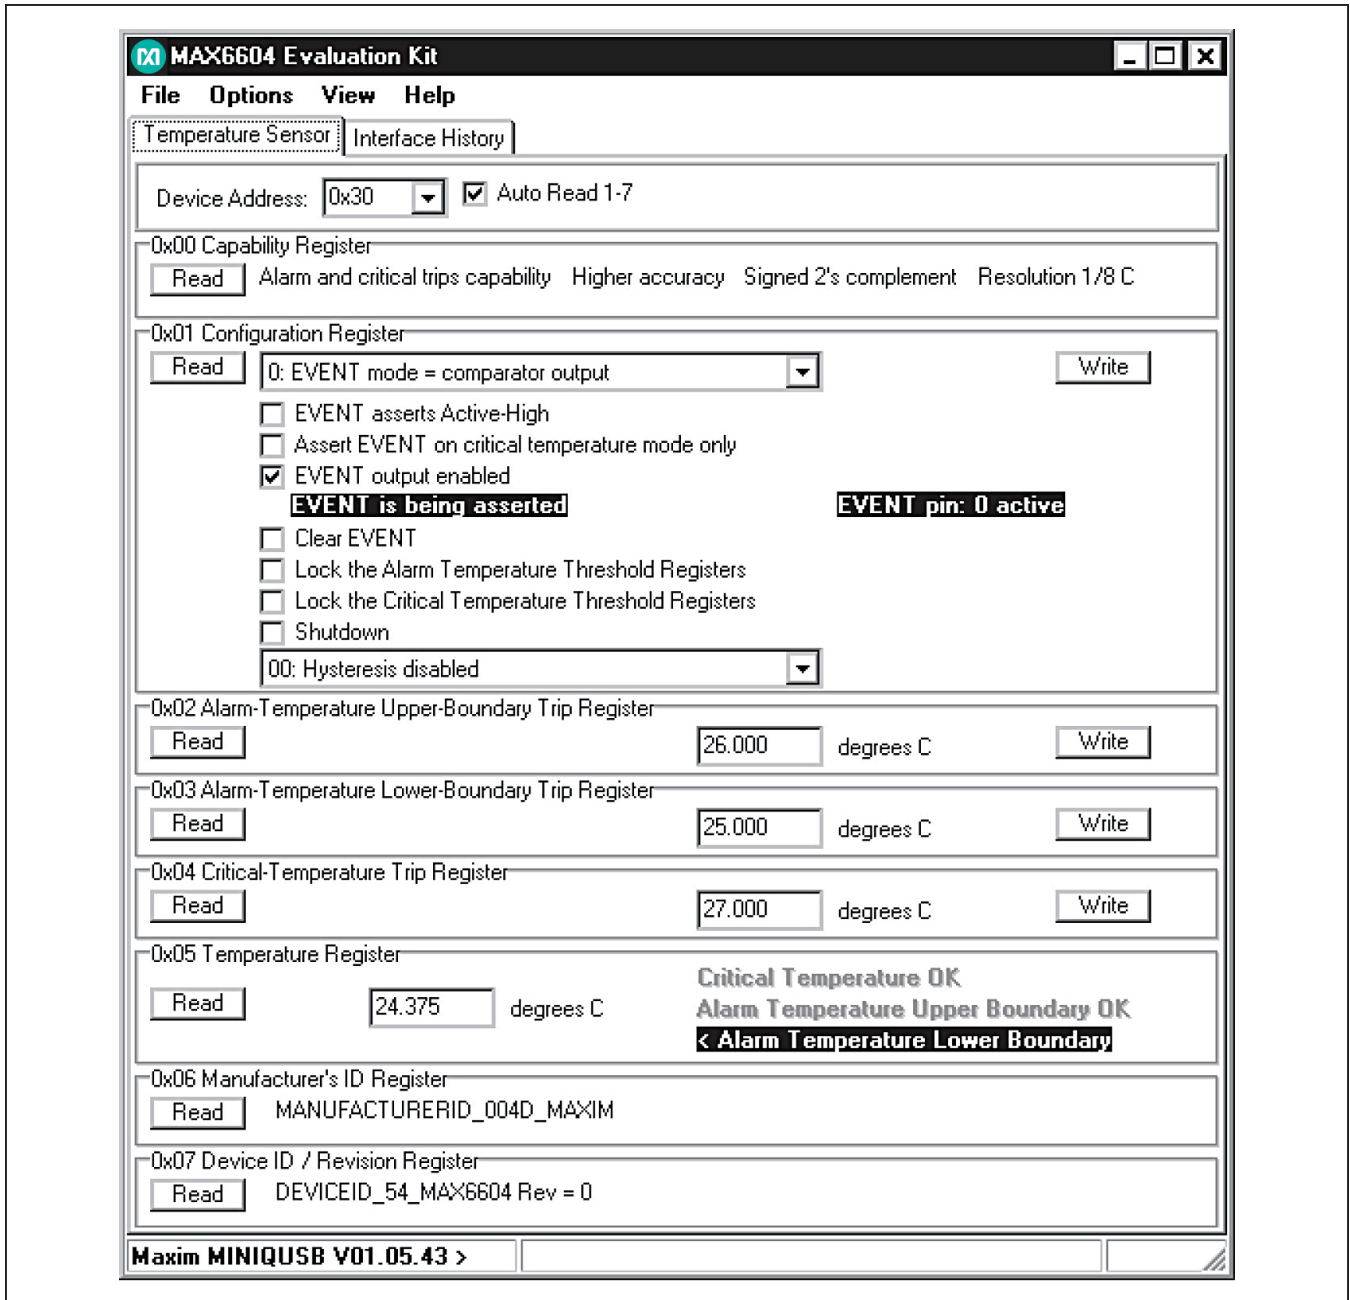

Figure 1. MAX6604 EV Kit Software Main Window (Temperature Sensor Tab)
- 6) Start the MAX6604 EV kit software by opening its icon in the **Start | Programs** menu. The EV kit software main window appears, as shown in Figure 1.
thresholds. The alarm is indicated by the INT pin being asserted and by the status indicators in the **0x05 Temperature Register** group box (alarm can also be tested by setting the threshold value below the measured temperature, as shown in Figure 1).
The main window of the evaluation software (Figure 1) displays the registers of the MAX6604 temperature sensor. Each register has a **Read** button, and each writeable register has a **Write** button. The status of the EVENT output pin is displayed inside the **0x01 Configuration Register** group box, next to the **EVENT output enabled** checkbox.
The **Temperature Sensor** tab sheet displays the temperature sensor registers of the MAX6604 (Figure 1). Each register has its own **Read** button, and each writeable register has a **Write** button. The **Auto Read 1-7** checkbox enables periodic polling of all register values. The software determines the **Device Address** when first starting up, by searching all eight possible I2C device addresses. This value must be manually changed if the JU1, JU2, and JU3 address-select jumpers are changed while the program is running.